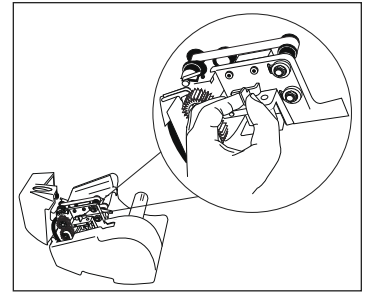

Figure 16
3. Remove blade. (See Figure 16)